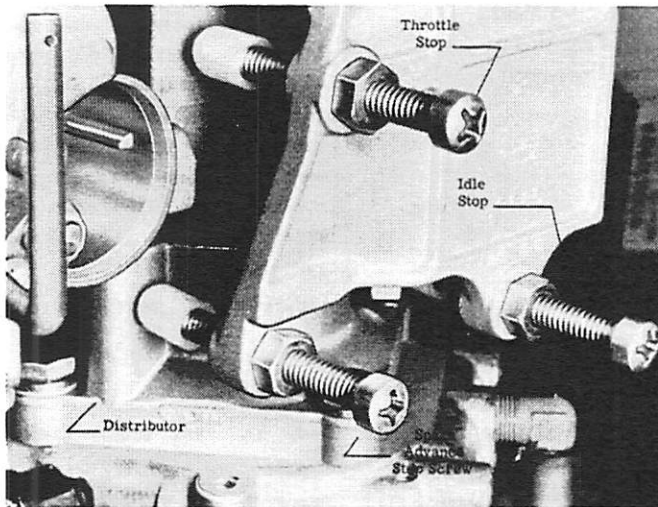

Figure 3. Spark Advance Adjustment
11. Retard distributor against "idle speed" stop screw. (Figure 3)
2. Adjust "throttle stop" screw on stop bracket (Figure 3) to allow full throttle shutter opening but not to allow throttle shutters to act as a stop or the carburetor cluster to hit carburetor filter bowl.
2. Idle engine and adjust "idle speed" screw on stop bracket (Figure 3) so that engine idles at 500 RPM in forward gear.